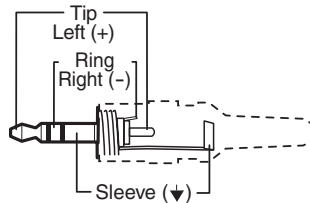

Figure 5. Audio Input Connector Wiring
- A** Audio input connector — Connect an unbalanced stereo audio source to this 3.5 mm mini stereo jack. Figure 5 shows how to wire the audio plug.
- A Audio input connector** — Connect an unbalanced stereo audio source to this 3.5 mm mini stereo jack (see figure 5 on page 8 for wiring details).